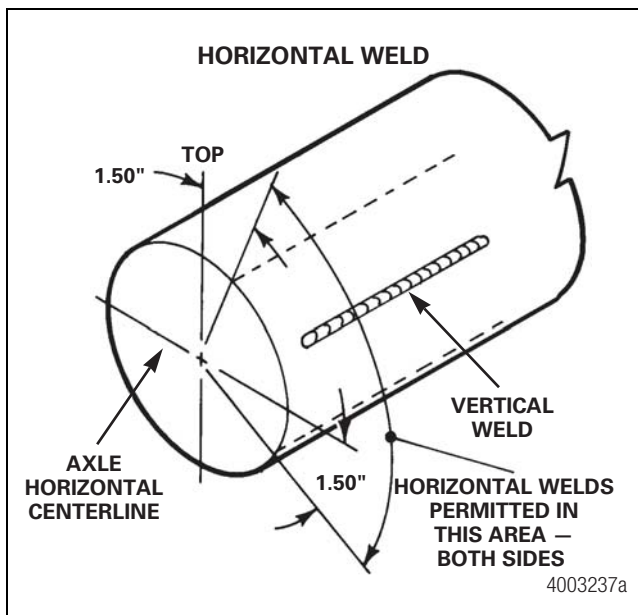

Figure 7.10
- Horizontal welding is not allowed more than 1.50-inches (38.1 mm) below the axle horizontal centerline. Figure 7.10.